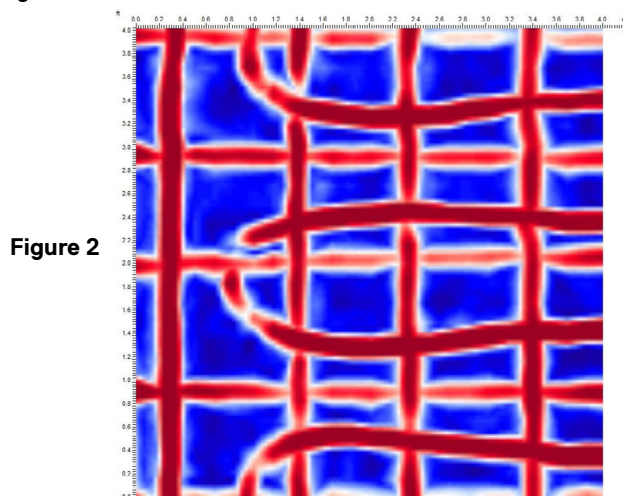
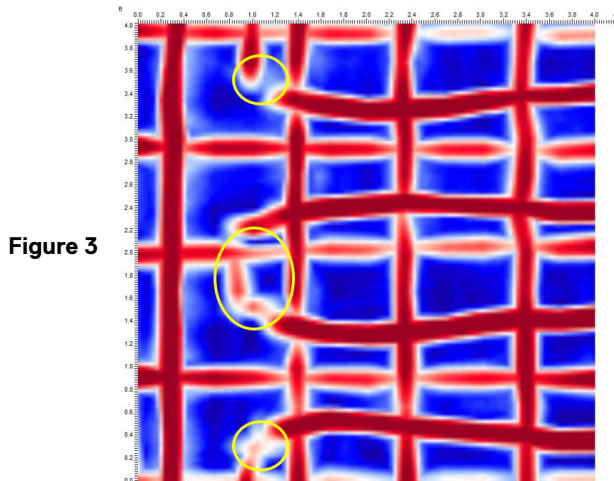

Figure 2
Figure 3
Figure 2 shows these tubes, laid over rebar.
3. Collect a high-resolution grid - closely spaced lines will spatially sample the subsurface more, allowing you to see the curvature better. In Conquest, this is referred to as a high-resolution grid. The depth slice in **Figure 2** (lines collected 2 inches apart) shows the curvature better than the depth slice in **Figure 3** (lines collected 4 inches apart). Note the circles in the image below, highlighting these differences. Collecting a high-resolution grid will help you to differentiate the heating tubes from the rebar.